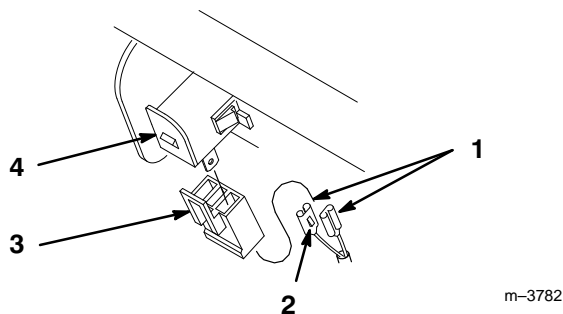

Figure 4
- Insert terminals into plastic plug until the clips snap into position (Fig. 4). If they do not snap turn around.
- Push plug onto switch so latch interlock (Fig. 4).